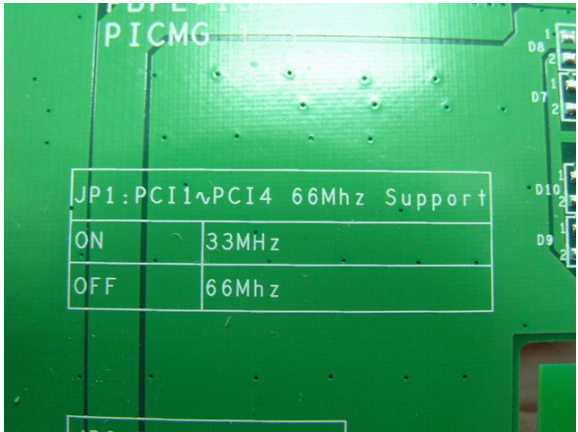
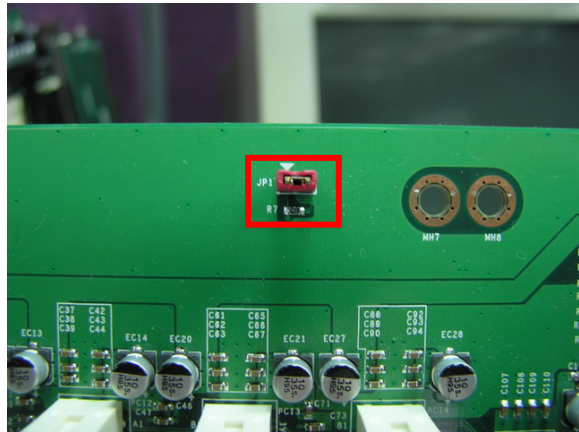

Fig. 8
Fig. 9
**JP1** configures the SPCI 1-4 slots working frequency (33MHz or 66MHz, Fig. 8). By default, the factory setting as this is the standard working frequency (33MHz) as Fig. 9 shown.